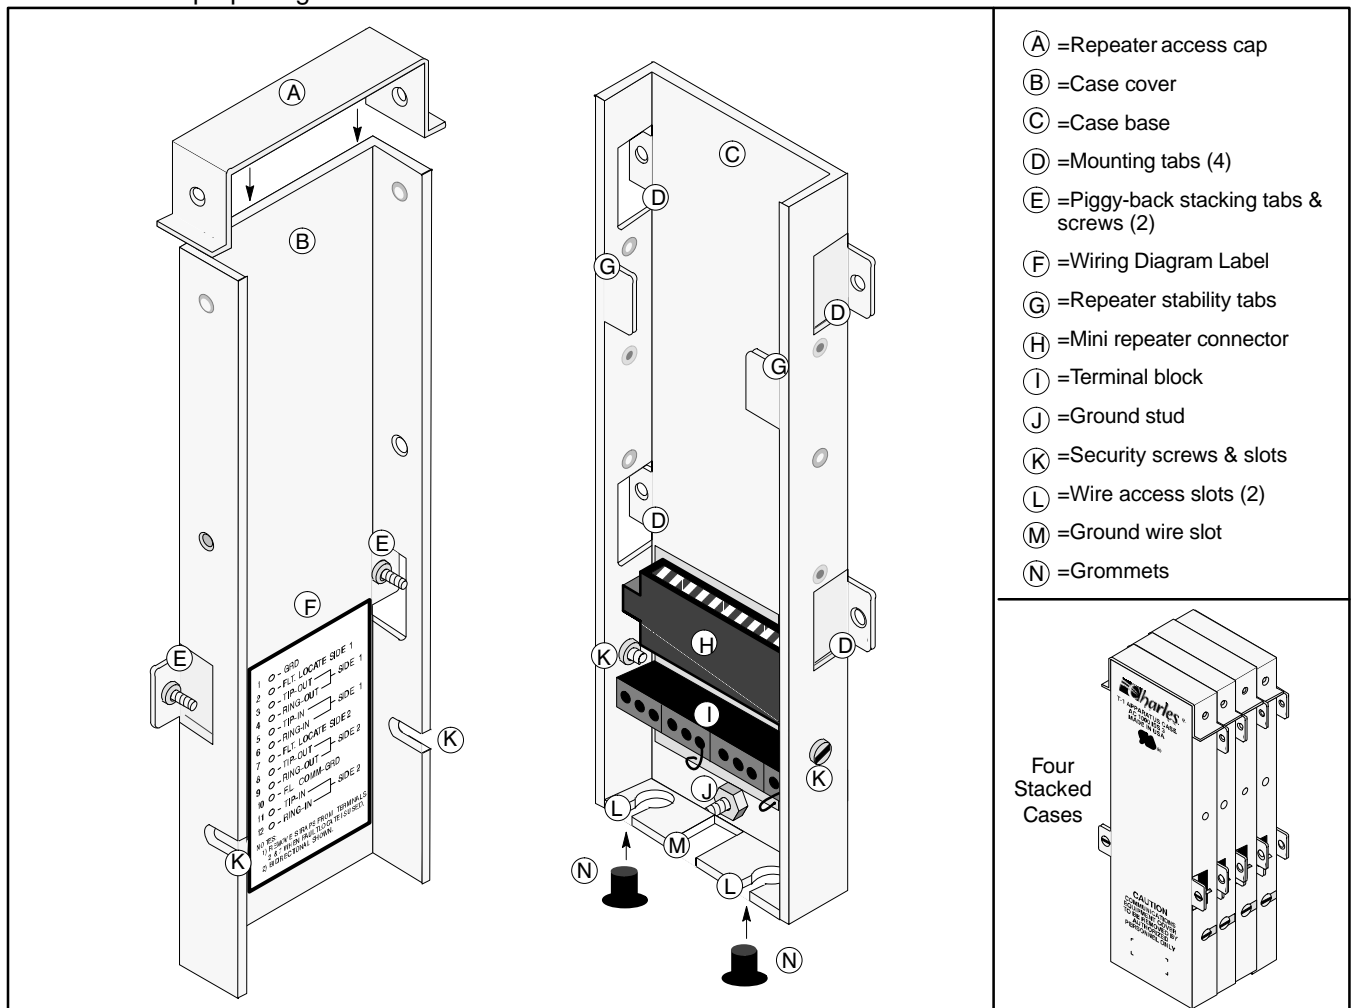
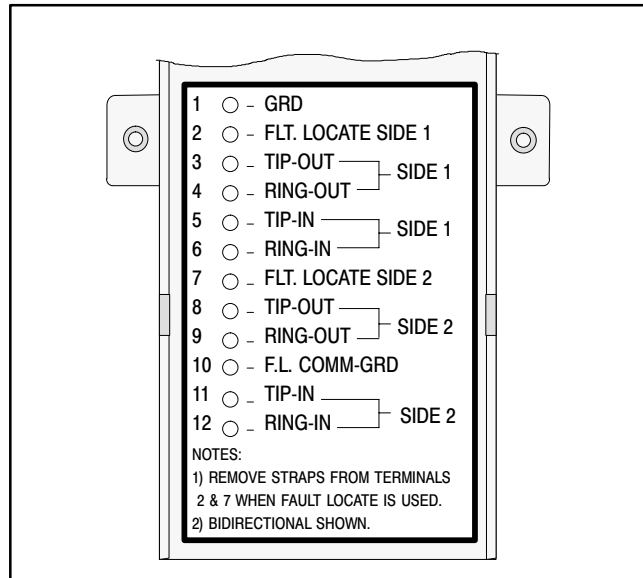
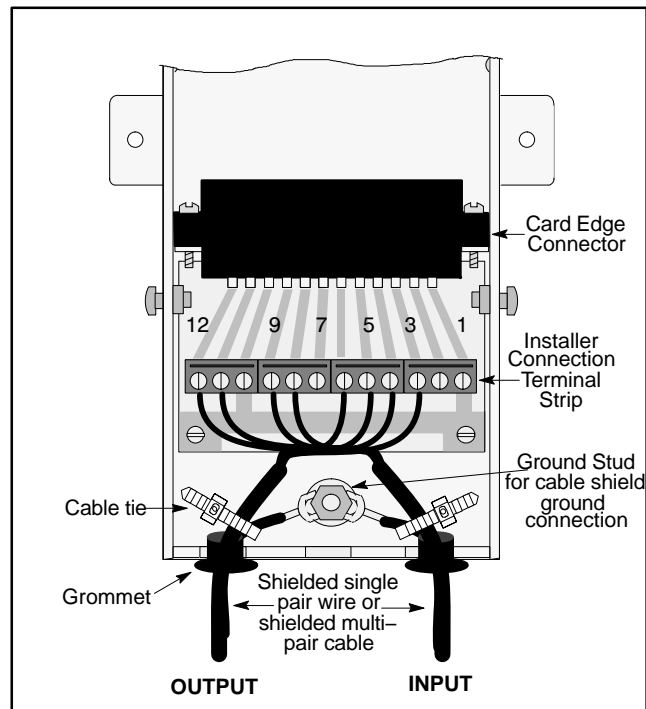

Figure 2. AC 1000 Apparatus Case
Figure 3. Interior View of Cover, Bottom Half
Figure 4. Interior View of Base, Bottom Half
This document is updated to change the terminology “rubber grommets” to “grommets”. Figure 2 and Figure 4 have been updated to show the correct grommets.
The snap-on repeater-access cap (item A, Figure 2) functions as a dust or environmental cover, and is designed to fit over the top opening of the case.
The case base (item C, Figure 2) contains the following features:
- 12-pin female card-edge connector (item H, Figure 2), for terminating the plug-in mini repeater (repeater connector contacts are gold-plated)
- Screw-type terminal block (item I, Figure 2), for terminating wire pairs to the repeater, including input, output, and fault locate output connections for both side 1 and side 2 of the repeater (the AC 1000 is shipped/pre-wired with jumpered fault locate outputs 2 and 7 strapped to ground)
The case cover (item B, Figure 2) fits snugly over the case base, when the screw slots on the sides are properly aligned with the corresponding security screws on the sides of the case base. The front of the case cover is silkscreened with the company and equipment identification information, and on the inside of the cover is a wiring diagram label, as shown in Figure 2 and Figure 3. Also on the front are two “piggy-back” stacking tabs (item E Figure 2), one on each side, for securing apparatus cases together when multiple cases are stacked on top of each other. (To stack up to four cases together, see **Mounting**.)
2.	Remove the case cap(s) and cover(s), but do not completely remove the side security screws (item K, Figure 2).
6.	When installing more than one AC 1000 case in a stacked or "piggy-back" fashion (see Figure 2), first perform Steps 1 through 7 in Part 5 for the bottom case before stacking the next case on top of it. Once the connections are made to the already-mounted bottom case and the cover is installed, remove the two "piggy-back" stacking screws (item F, Figure 2) from the bottom case cover. With the cover removed from the top or second case, place the top case base in front of the bottom case, carefully aligning the stacking tabs of the bottom case cover with the stacking tabs of the top case base. Secure the two together with the stacking tab screws just removed, one on each side. Then perform Steps 1-7 in Part 5 for the top case. Repeat entire procedure for a third and fourth case, if desired.
6.	<p>Install Cable Ties After all wiring connections are complete, further secure the wires on each side with the two cable ties provided, as shown in Figure 4.</p>